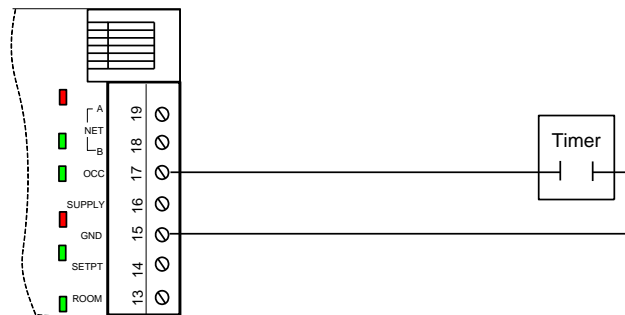

Figure 9: Connecting an external timer to the controller
When using a dry contact originating from an external timer to switch from the occupied mode to the unoccupied mode, the contact must be connected to the "Setback" (17) and the "GND" (15) pins. See Figure 9 to see how to wire the timer correctly. To indicate occupied mode, the contact must be open. To indicate unoccupied mode, the contact must be closed. However, if that controller is part of a network using a Master unit, an individual contact is unnecessary because all zone controllers share the occupancy status sent on the network by that Master.